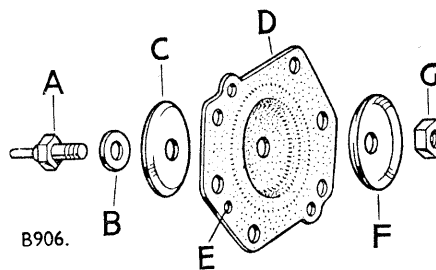

Fig. M-9—Layout of speed jet membrane assembly
5. Fit the pump shaft to the new membrane so that the small hole for the air duct tube (E) is on the left of the securing nut (G) (Fig. M-9). Care must be taken not to twist the membrane when tightening the securing nut. Secure the nut by staking.